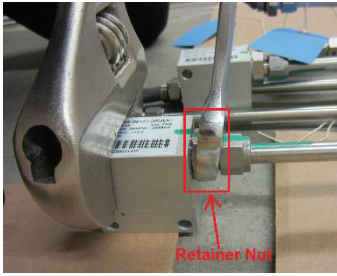

Figure 34: Separate the trigger line and the PRD block.
2. Using an adjustable wrench or body fixture, hold onto the PRD block and using a 7/8" wrench, hold onto the flats of the retainer nut (Figure 34).